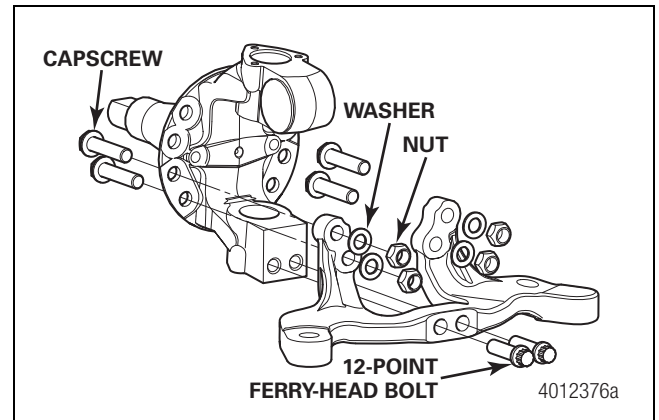

Figure 6.35
1. Mount the integrated steering and tie rod arm assembly onto the four brake spider retaining capscrews that extend through the lower knuckle holes. Figure 6.35.